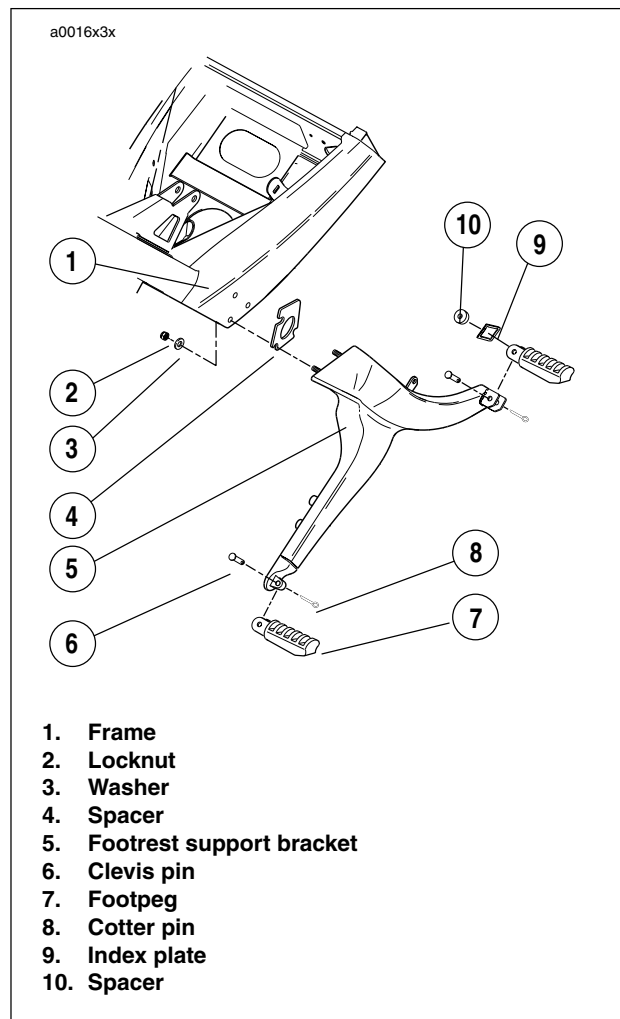

Figure 3-10. Footpeg Bracket Assembly
21. See Figure 3-10. Remove right side rider footpeg bracket assembly. See 2.21 FOOTPEGS AND FOOTPEG SUPPORT BRACKETS.